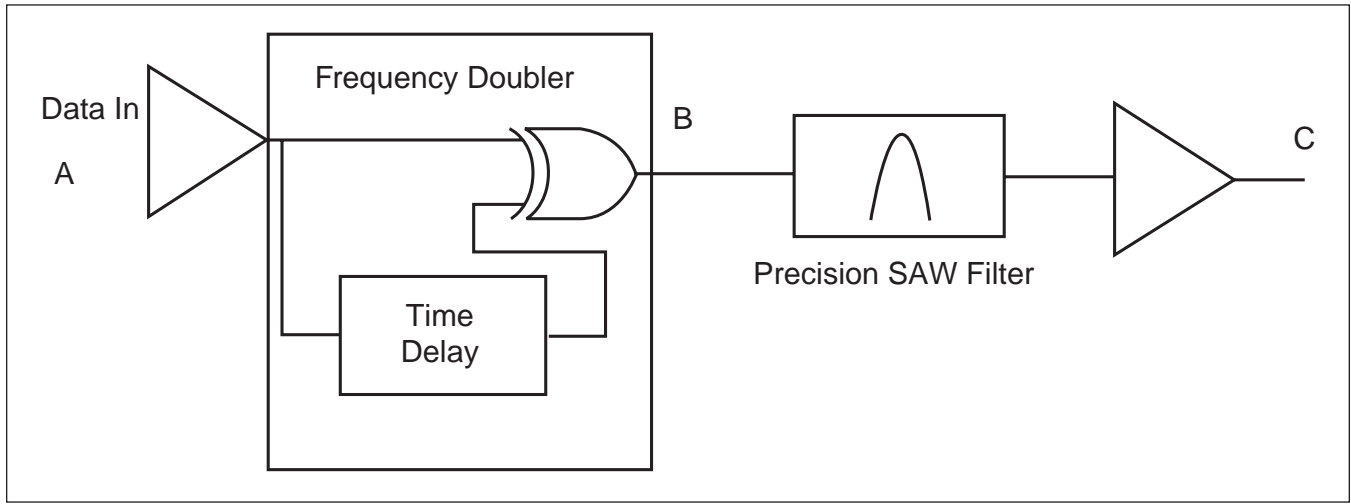
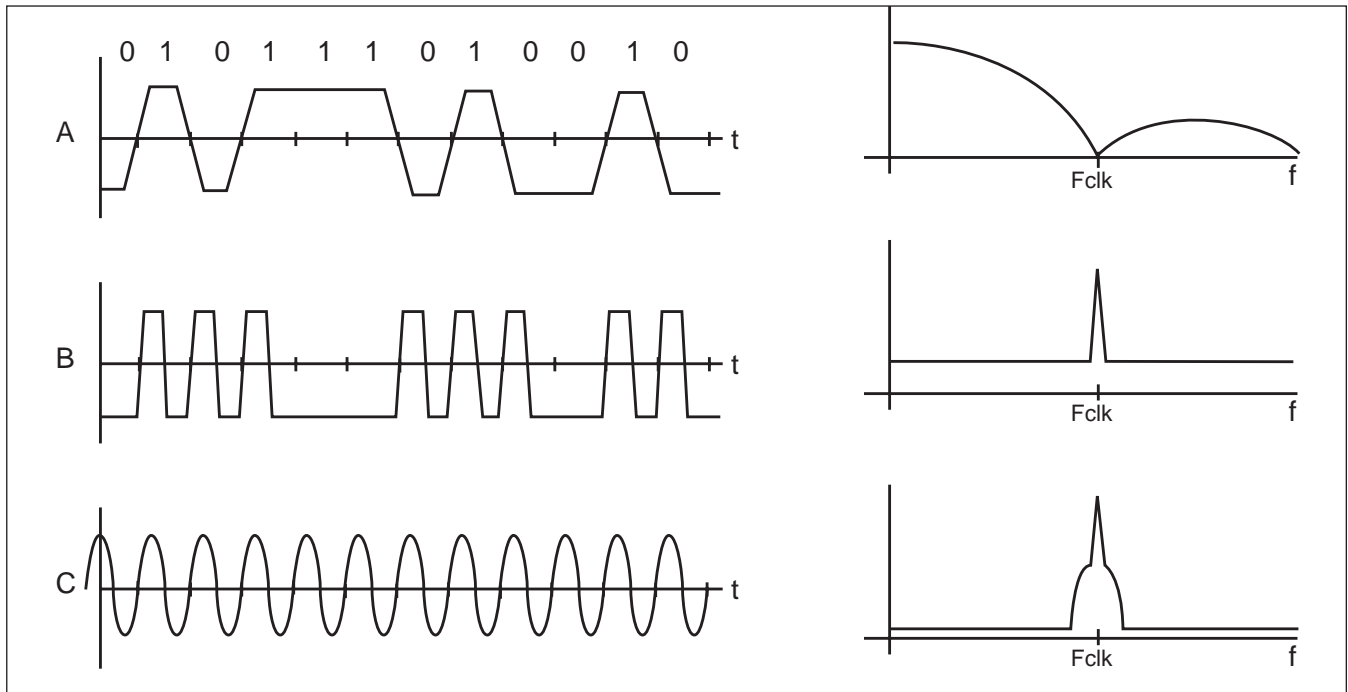

Figure 2. Clock Extraction Path
Figure 3. Signals in Clock Recovery Path
The circuit architecture of the clock recovery path is shown in Figure 2. Figure 3 illustrates the time domain waveform and its associated frequency domain spectrum at various points in the path. Since the input NRZ data stream (A) has a null at the clock frequency, non-linear processing of the signal is required to generate spectral content at the clock rate. The circuit uses a microstrip line to delay the data 1/2 of a bit period. The data and delayed data are then fed through an exclusive or-gate to produce a pulse at each data transition. This signal then has a strong spectral peak at the desired clock rate (B) and can be viewed in the time domain as a clock signal with missing pulses. The pulse train is then filtered and shaped prior to the SAW filter to provide optimum performance. The SAW filters this signal to provide a continuous sine wave (C) with compliant jitter characteristics. This signal is amplified and becomes both the output clock and the retiming signal for the decision circuit.